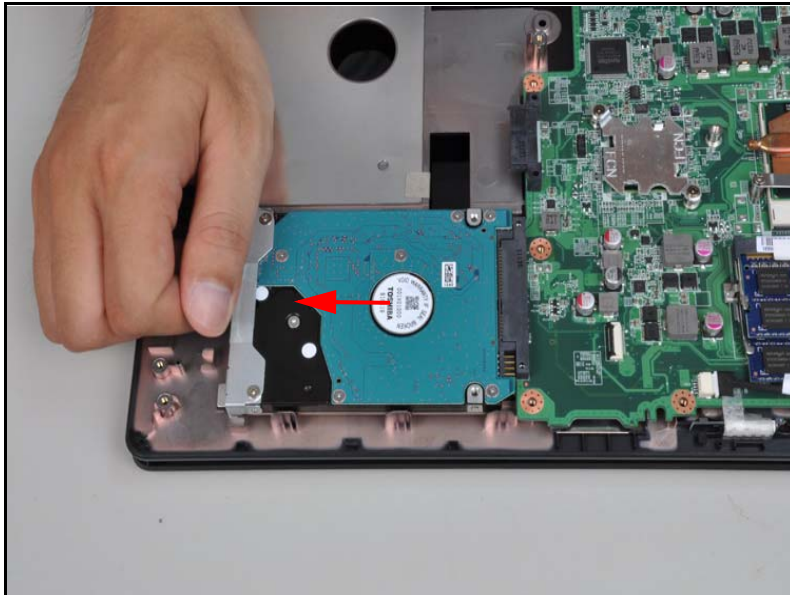

Figure 3-14. HDD Location
1. Using the pull-tab, slide the HDD module in the direction of the arrow to disconnect the interface. (Figure 3-14).